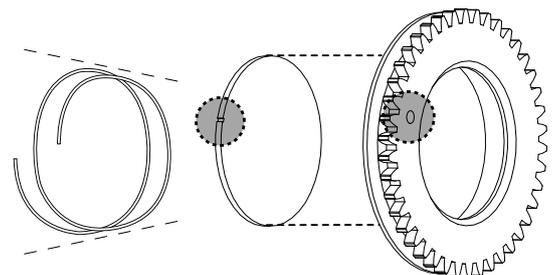

Figure 30: Mounting gobo in holder
2. Insert the new gobo into the gobo holder with the coated side towards the light source (coated side towards gobo holder) while aligning both index marks (figure 30) of the gobo and the gobo holder.
3. Insert the conical spring, with the narrow end against the gobo (figure 30 and 27) by pushing its end under the lip of the gobo holder. Check that the gobo is secured in place.